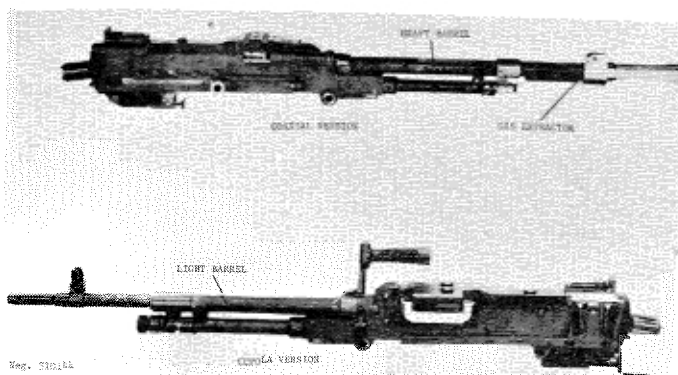

Figure 145. Tank versions of the M.A.G./L7A1.
c. The British have several versions of their L7 series machinegun. These include the L8A1 (fig 145) and the L37A1 guns installed on armored vehicles. These guns, while basically L7 weapons, have special barrels and triggering mechanisms, and may have a gas extractor tube fitted under the barrel. These guns also may have butt stocks and bipods for emergency dismantled use.